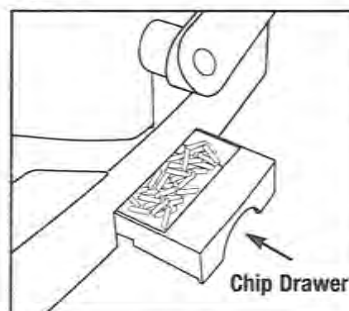

Figure 10
1. Your ProClick P210E has a chip drawer located on the right side of the machine (see Figure 10). On the P210E, an indicator light located above the punch button will illuminate when it is full. To empty, gently pull the drawer open and remove it from the machine. Dispose of the contents and re-insert the drawer into the machine until it snaps in place.